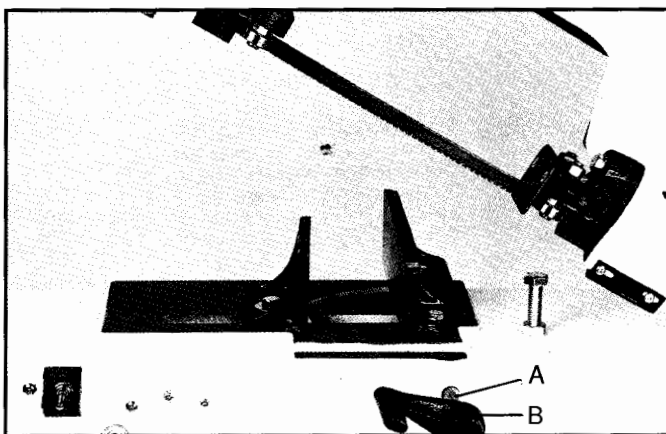

Fig. 4
10. Insert stop rod (A, Fig. 4) into bed and tighten set screw. Slide stock stop (B, Fig. 4) onto rod and tighten set screw to hold in place.